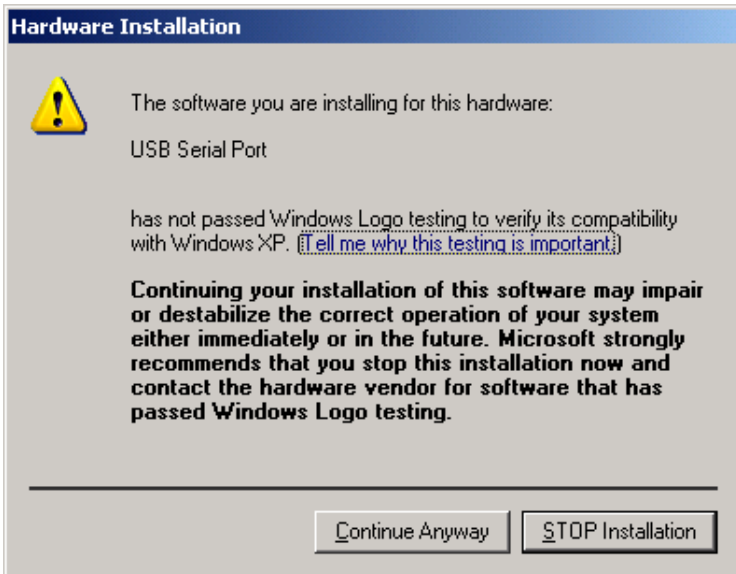

Figure 13. Compatibility warning window.
3. When the warning window appears (Figure 13), click **Continue Anyway**.